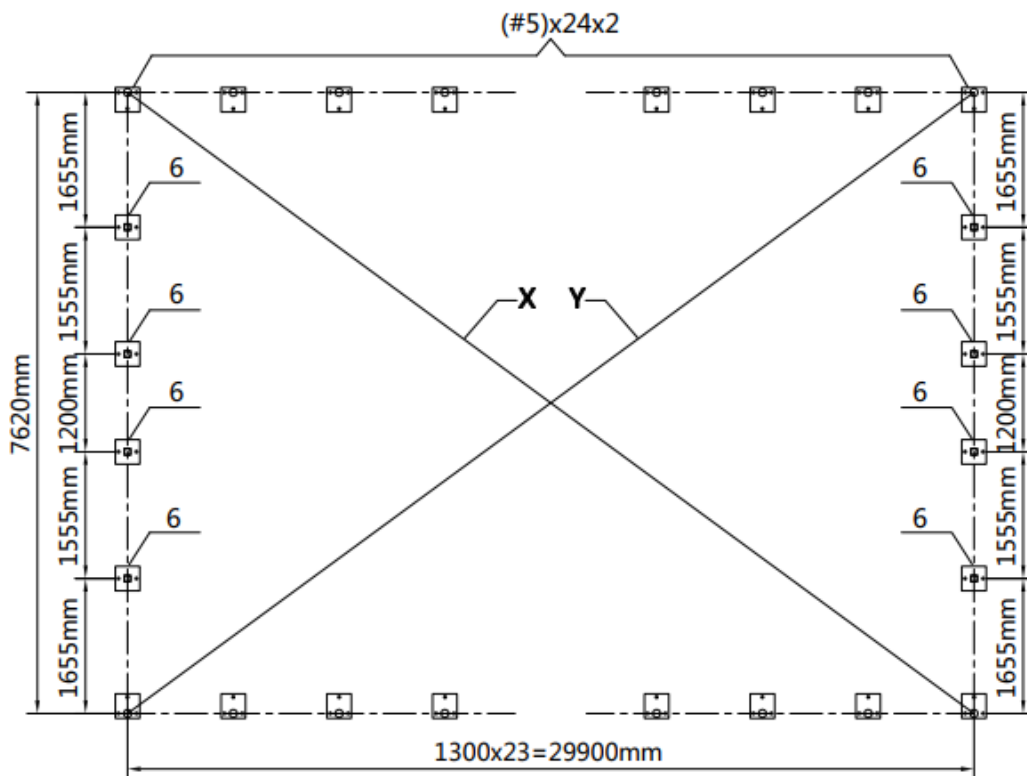

Figure 1
- Base plates : all base plates must be installed firmly with expansion bolts (#5B) on this step (refer to figure 1).
- (48) Base plate (#5)